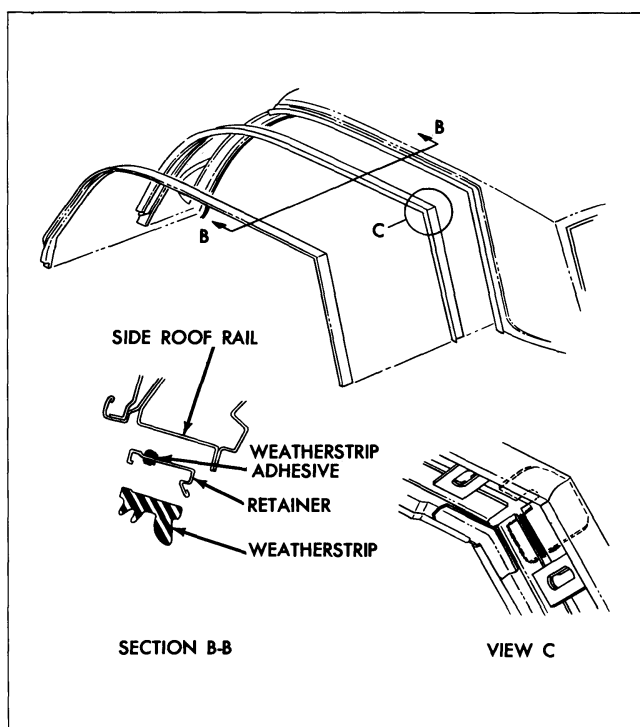

Fig. 3-60 Side Roof Rail Weatherstrip - 39 Style
*NOTE: The side roof rail retainer to side roof rail sealing gasket (shown in Fig. 3-60 for 39 style and 3-61 for 47 style) is not installed in production, but is recommended for service sealing. This gasket can be cut to size from existing stock.*
2. Apply a continuous bead (approximately 3/16" diameter of weatherstrip adhesive along entire outboard surface of side roof rail weatherstrip retainer (see section B-B in Figs. 3-60 and 3-61).